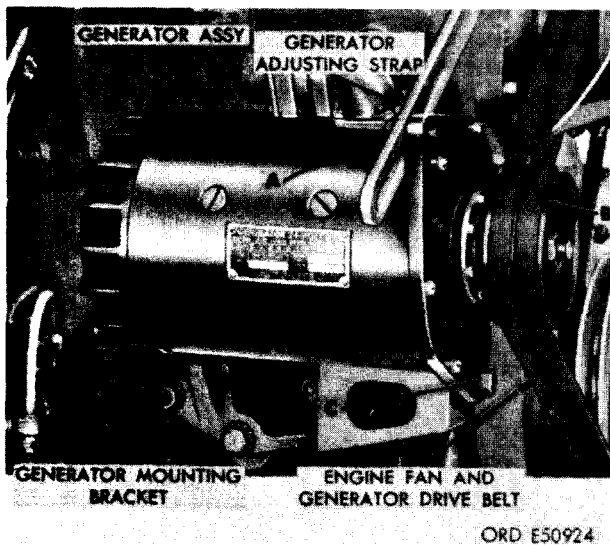

FIGURE 41. REMOVING OR INSTALLING GENERATOR ASSEMBLY AND/OR ENGINE FAN AND GENERATOR DRIVE BELTS.
- (1) Figure 41. (A) Remove 3/8 x 7/8 cap screw, 3/8-inch lock washer, and special flange washer attaching generator adjusting strap to generator. (B) Lift generator assembly up towards engine and
- (1) Refer to figures 41 and 42 and reverse the sequence of illustrations and instructions to install generator assembly.